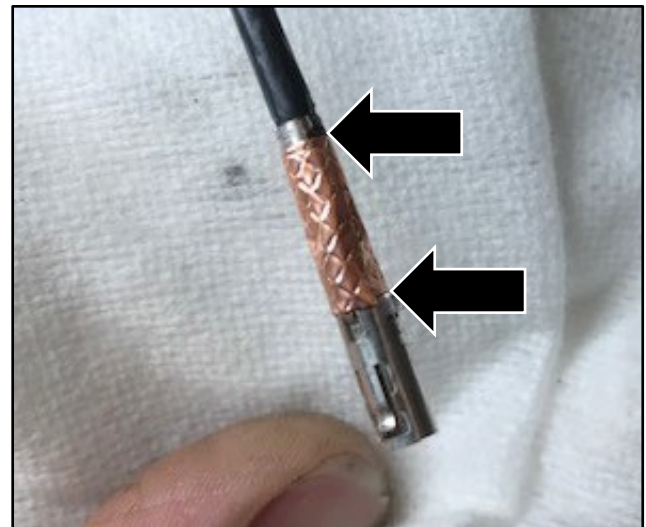

Figure 6
8. Apply copper tape to the area shown. You must make sure there are no gaps to the areas shown as this will cause electromagnetic interference (refer to Figure 6).